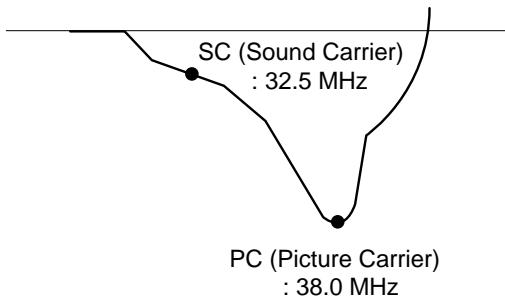

Fig. 2: Output waveform on Alignment Scope
- 2) Adjust VCO ADJ. coil(**L501**) so that the level of Picture Carrier (PC) may be at the lowest position as shown Fig. 2.